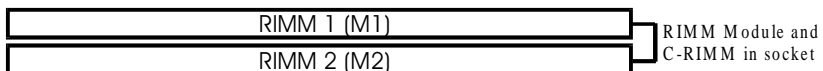
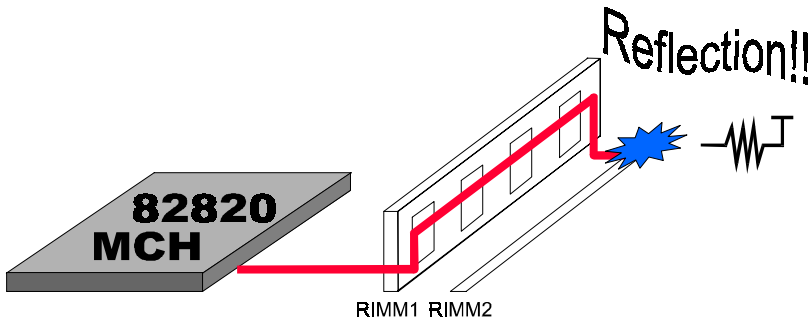

Figure 9
Figure 11: Wrong Configuration
The EP-6CXA2C supports (2) 184-pin RIMMs (Rambus Interface Memory Module) as shown in Figure 9. The RIMMs can be RIMM and C-RIMM (Continuity RIMM) only. RIMM modules have Rambus channel signals as their memory interface. A RIMM module may contain up to a maximum of 16 RDRAM devices. All RDRAM devices on a RIMM must have the same timing characteristics. Empty RIMM sockets must be populated with continuity modules (C-RIMM). These modules have no memory on them and are used to propagate the channel to the next RIMM socket. Figure 11, 12, 13 & 14 provide a general diagram of a RIMM module and installations of RIMM/C-RIMM modules.
This section describes some basic RIMM/C-RIMM installations as described in table 3. Note that continuity Modules are required in empty sockets. Figure 11, 12 and 13 display common installations including an example of a incorrect one (see figure 11). RIMM or RDRAM signals are daisy-chained through each device on RIMM and memory module.